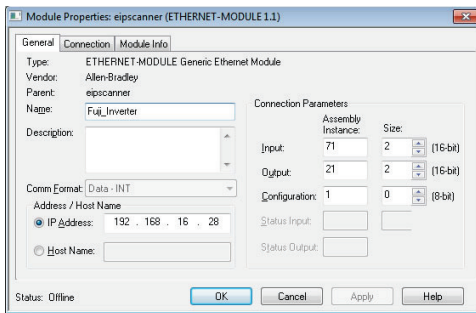

Figure 61: AC/DC Drive Profile Generic Ethernet Module Configuration
- 1) Complete all the steps in section 9.2.11. Please note that the Assembly Input Instance must be changed to 71 and the Assembly Output Instance must be changed to 21. Refer to Figure 61.